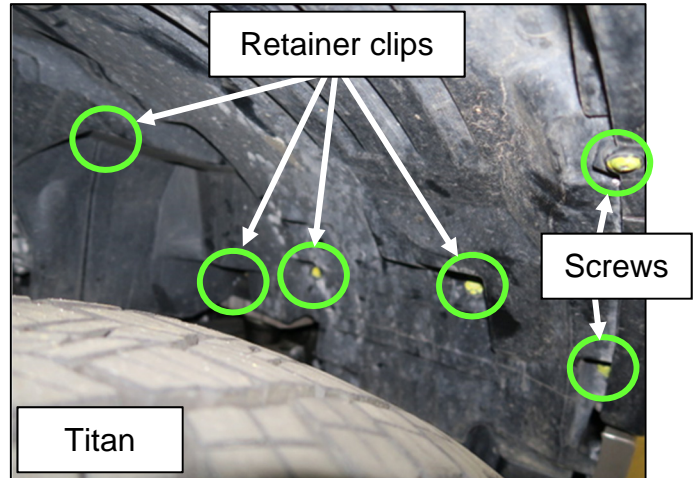

Figure 1
- 4 retainer clips and 2 screws (Figure 1).